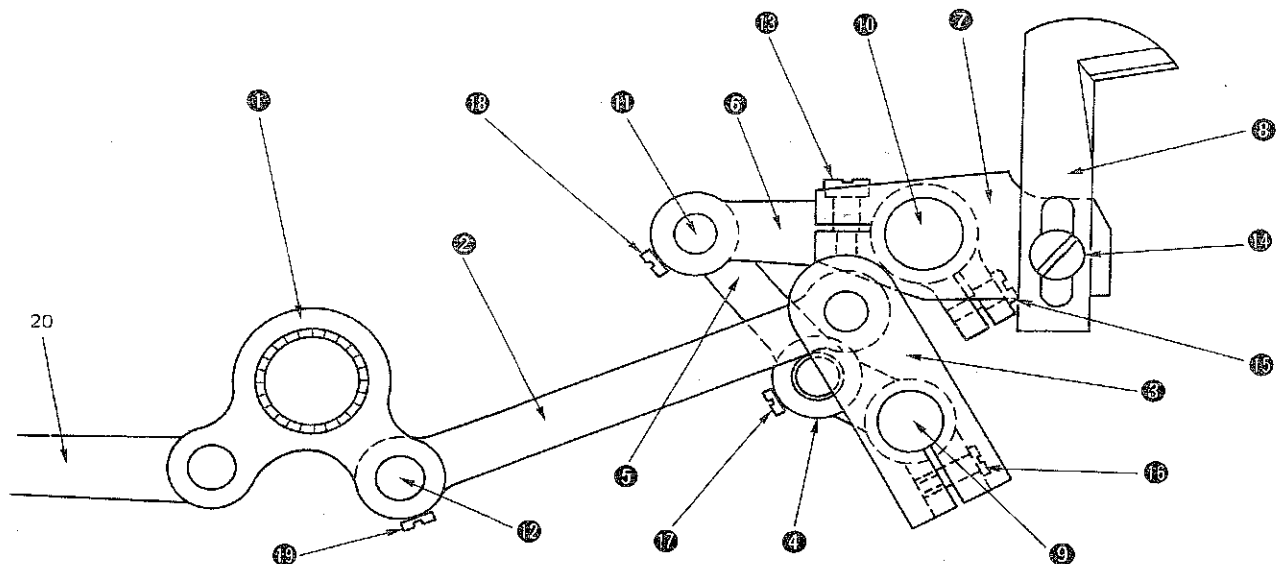

Fig. V-4-1
Fig. V-4-1 illustrates the major moving parts of the knife. Feed crank link ① mounted on the lower shaft moves vertically along the elliptical stroke using the shaft of the feed crank link ① which is eccentric to the rotation of the lower shaft. Driving arm ③ of driving link ② connected to feed crank link ① oscillates, centering feed rocker shaft ⑨ along with the vertical and elliptical movement of feed crank link ①. The oscillation of the driving rod is then transferred to feed rocker arm, lower ④, while the vertical movement is transferred to feed rocker link ⑤. Consequently, feed rocker arm, upper ⑤ also moves vertically, while causing differential feed shaft ⑩ to oscillate. Upper knife base ⑦ attached to differential feed shaft ⑩ oscillates, centering the knife shaft and actuating the vertical movement of the knife.